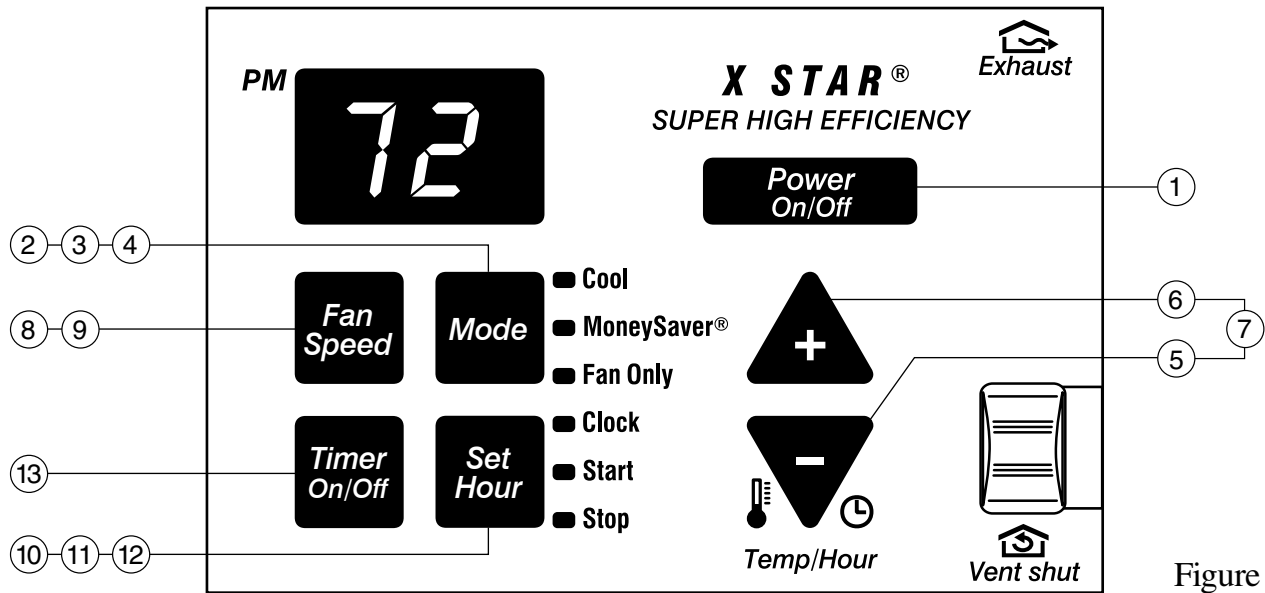

Figure 2
- 3 FAN ONLY - Press the FAN ONLY button if you want to run the fan only. You may want to use this feature in conjunction with the EXHAUST if you want to exhaust stale air. (The EXHAUST feature is located on the upper right side of the electronic control center on the air conditioner). See page 4, Figure 2.